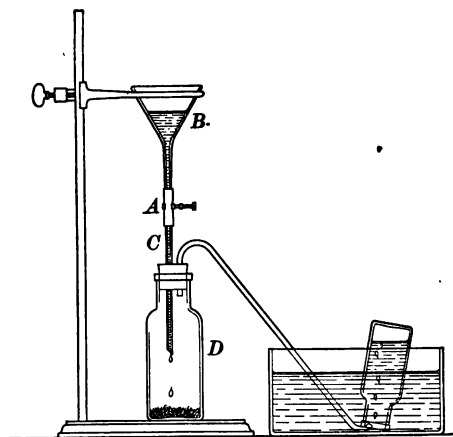

FIG. 17
**16. Preparation from sodium peroxide and water.** Sodium peroxide is a white solid containing 41 per cent of oxygen, and when treated with water, a part of this is set free. Arrange an apparatus according to Fig. 17. By means of a short piece of rubber tubing *A* connect the funnel *B* with a glass
**17. Preparation from potassium permanganate and hydrogen peroxide.** Using the apparatus shown in Fig. 17, place a solution of 5 g. of potassium permanganate in 25 cc. of water in *D* and add 3 cc. of sulfuric acid. Fill the funnel with commercial hydrogen peroxide and allow it to flow very slowly into the solution in *D*.